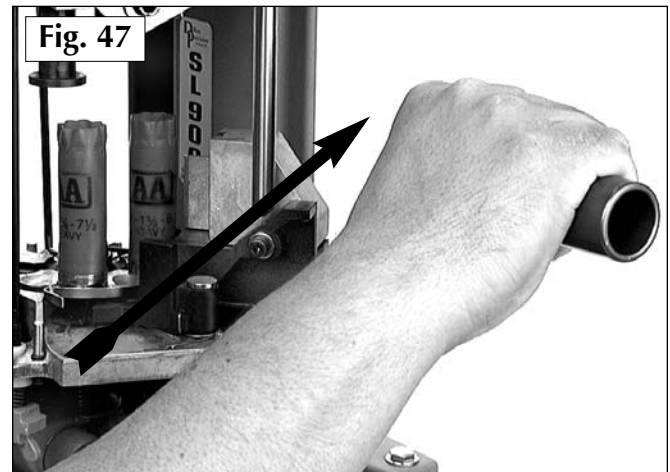

Fig. 47
4. Return the roller handle (#22183) to its rest position. The first hull advances to station two and another hull has been fed to the shellplate. **Fig. 47**